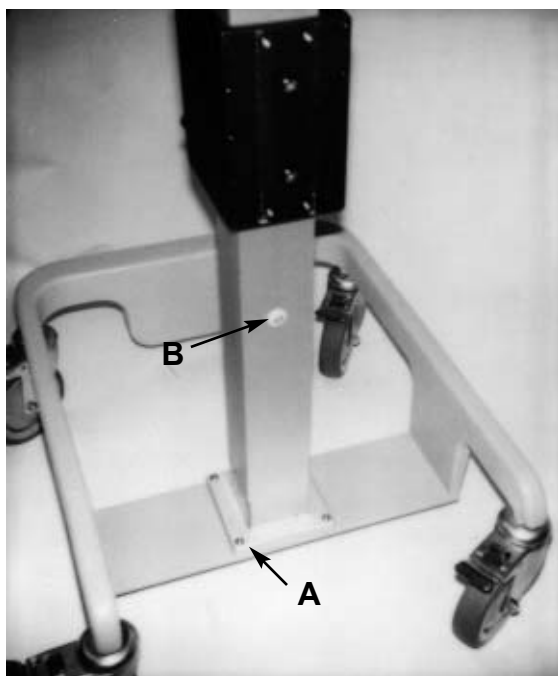

Figure 1
1. Place 6 1/2' square post (box 2) on base (box 1) and align four mounting holes so the black carriage with the two protruding mounting screw heads are facing the open end of the base (figure 1). Before installing the four bolts (A), place a drop of Loctite® as provided on the end threads of the screws.
2. Remove 3 1/2" bolt (B) going through square post at bottom (figure 1).
4. Mount the contour plotting board frame (box 3) using the two mounting keyholes, which will allow the two protruding screws from the carriage to engage in the keyholes supporting the plotting board frame. Before installing the four 2" long button head screws (C), place a drop of Loctite® as provided on the end threads of the screw.